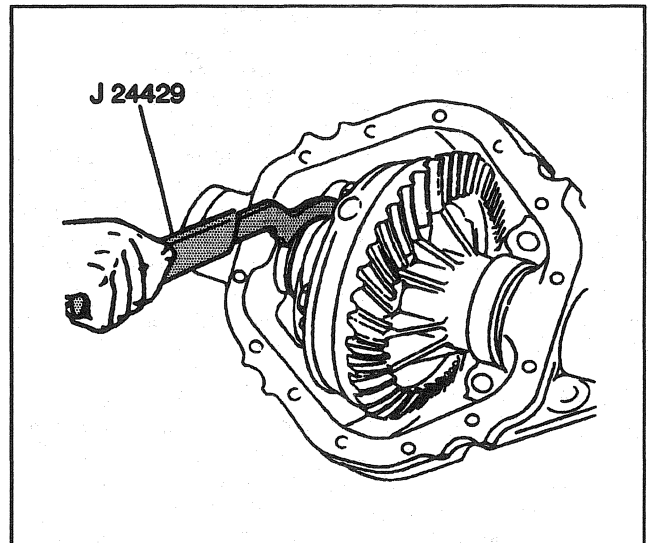

Figure 16—Adjusting the Differential Preload
- B. Loosen the right side adjusting nut and tighten the left side nut using J 24429 until the ring gear contacts the drive pinion (Figure 16). Do not force the gears into contact. This is the zero lash point.
5. If the reading is too high, remove the adjusting nut locks, and loosen the right nut one slot. Then tighten the left nut one slot (Figure 16).